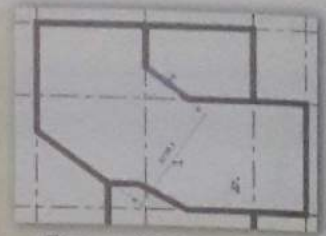

Figure 85: Select Wall
2. Opens Go to view dialog box. Select the Elevation: South view to see the selected wall's side view (Figure 85).